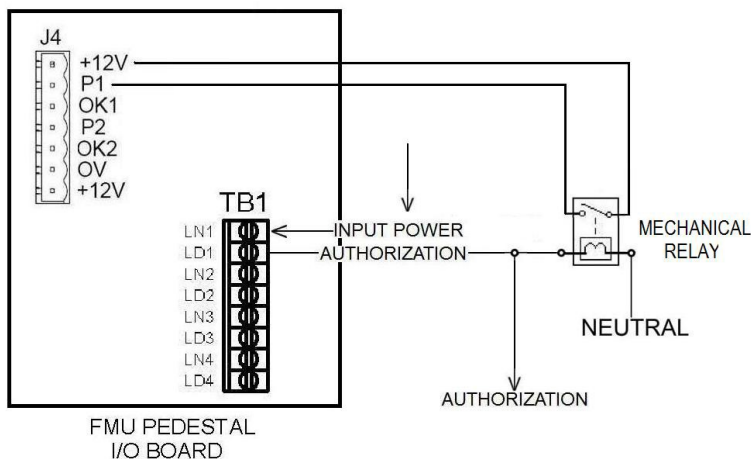

Figure 21 Generating Pulse with Solid State Relay Assembly
**Using Solid State Relay Assembly (SSRA) to Generate Pulses** - A standard SSRA can only switch AC power. As a minimum, a DC relay with AC control needs to be added to switch +12V to P1. If the gate or carwash controller requires a DC momentary power signal, a DC relay will also need to be added for authorization. If two or more mechanical relays must be installed, consider exchanging the SSRA for a DCRA. Figure 21 illustrates how an SSRA may be wired to control the device and send a pulse from +12V to P1. Repeat this wiring configuration for each FMU hose position used.